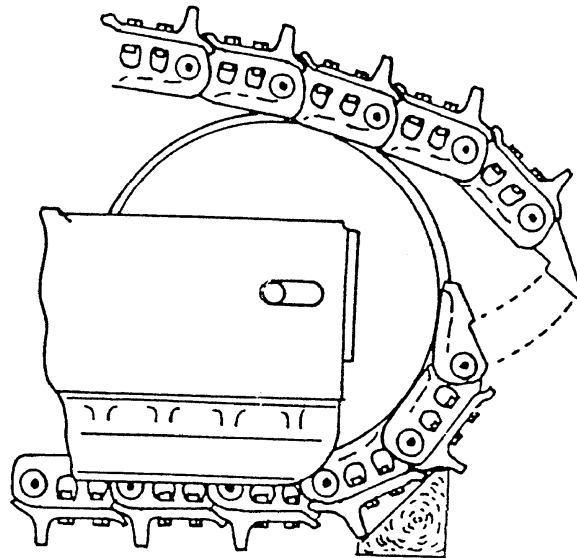

Fig. 15.3. Removing Split Link
1. Move the machine forward until split link is located on front lower half of front idler as shown in Fig. 15.3 and block up under track.